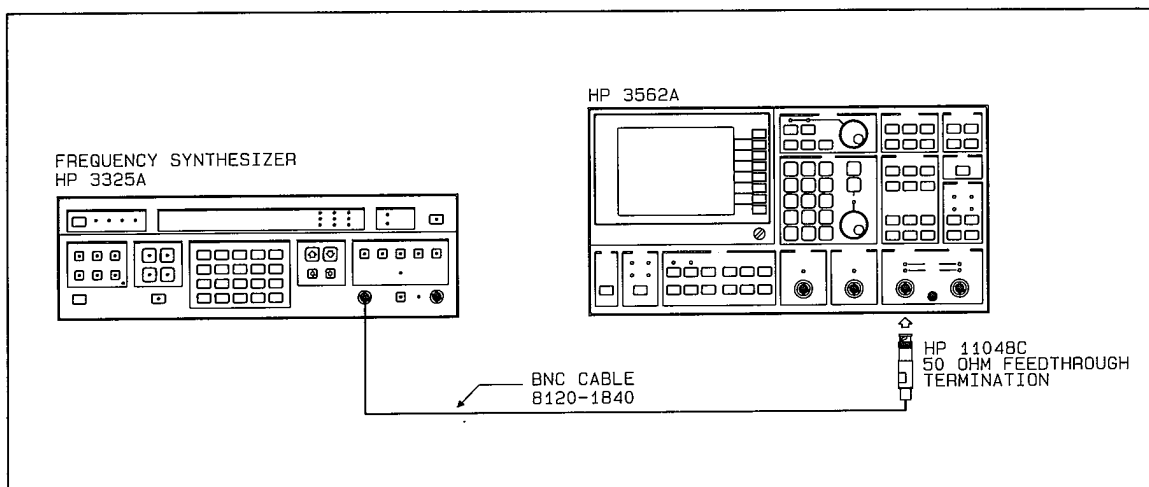

Figure 2-5 (OV) Frequency Accuracy Test Setup
- A. Connect the test equipment as shown in figure 2-5. Refer to "Initial Equipment Setup," section 2-6, for unspecified parameters.